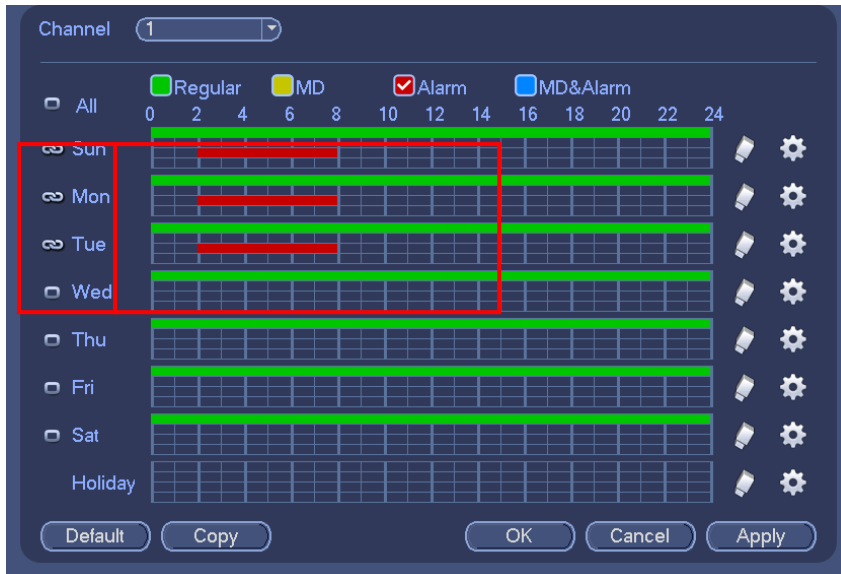

Figure 4-172
- ✧ Please draw manually to set record period. There are six periods in one day. See Figure 4-172.